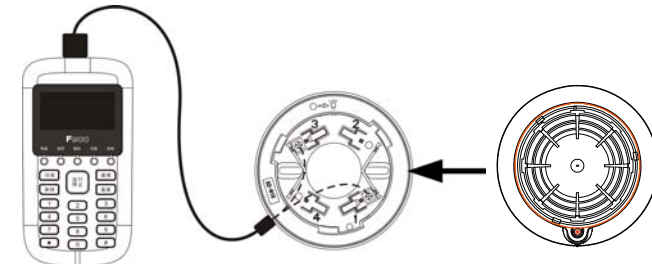

Fig.4
3. Coding address: As shown in Fig.4, detector is accessed via the detector mounting base on the coder (CODER-F900E), non-polarity connection is adopted for the terminals L1 and L2, set the coder with the coding function, select the correct address number and press the RUN key to complete the address code setup. (Note: See the User's Manual of the coder for the detailed operation.)